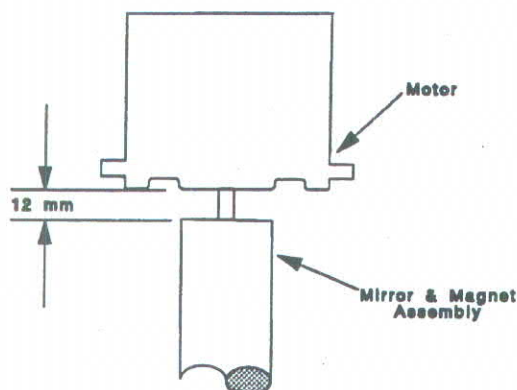

Figure 3-3 Mirror And Magnet Assembly.
- STEP 7** Install the new mirror and magnet assembly, positioning it on the shaft so that its end is located approximately 12 mm from the face of the boss on the motor end plate. See Figure 3-3.